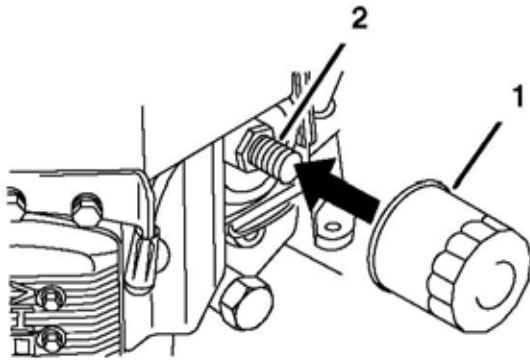

Figure 18
2. Remove the old filter **Figure 18**.
3. Apply a thin coat of new oil to the rubber gasket on the replacement filter. Install the replacement oil filter to the filter adapter, turn the oil filter clockwise until the rubber gasket contacts the filter adapter, then tighten the filter an additional 3/4 turn **Figure 18**.